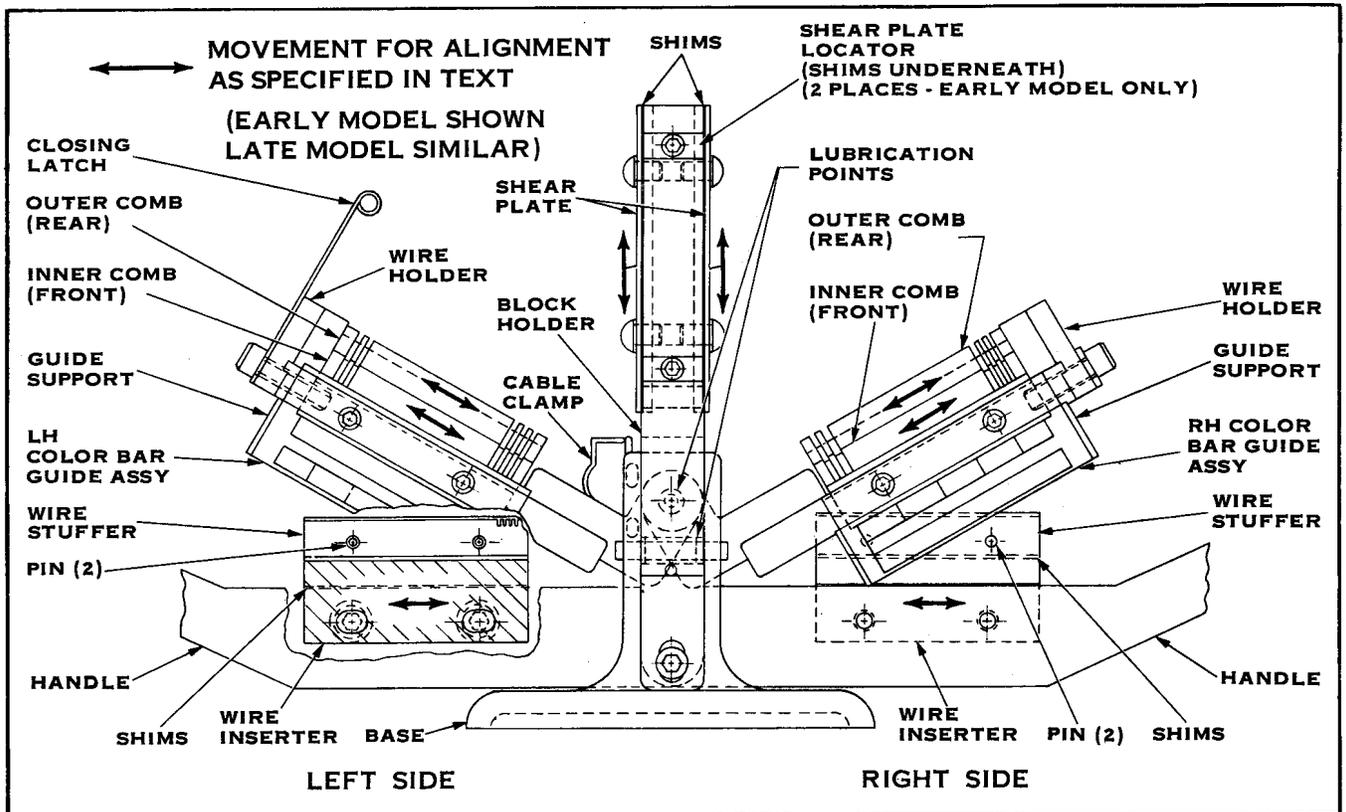

Fig. 6
6.02 Color Bar Guide Assembly Replacement. (See Fig. 6.)
6.03 Cable Clamp Replacement (Fig. 6) — To replace cable clamp (Item 3), open tool, then drive out pin far enough to remove old clamp. Install new clamp by driving in pin.
6.04 Closing Latch Replacement (Fig. 6) —
6.05 Comb Replacement (Fig. 6) —
6.06 Replacement of Shear Plates (Fig. 6) — The design improvements in the late model tool require a shear plate replacement procedure that differs from that used for the early models. Both procedures follow.
6.07 Wire Stuffer Replacement (Fig. 6) —
6.08 Wire Inserter Replacement (Fig. 6) —